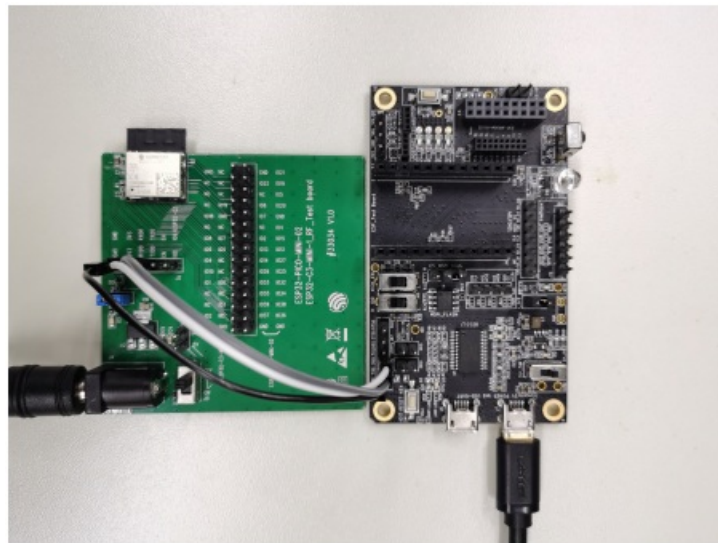

Figure 2: Hardware Connection
1. Solder the ESP32-C3-MINI-1 module to the RF testing board as shown in Figure 2.